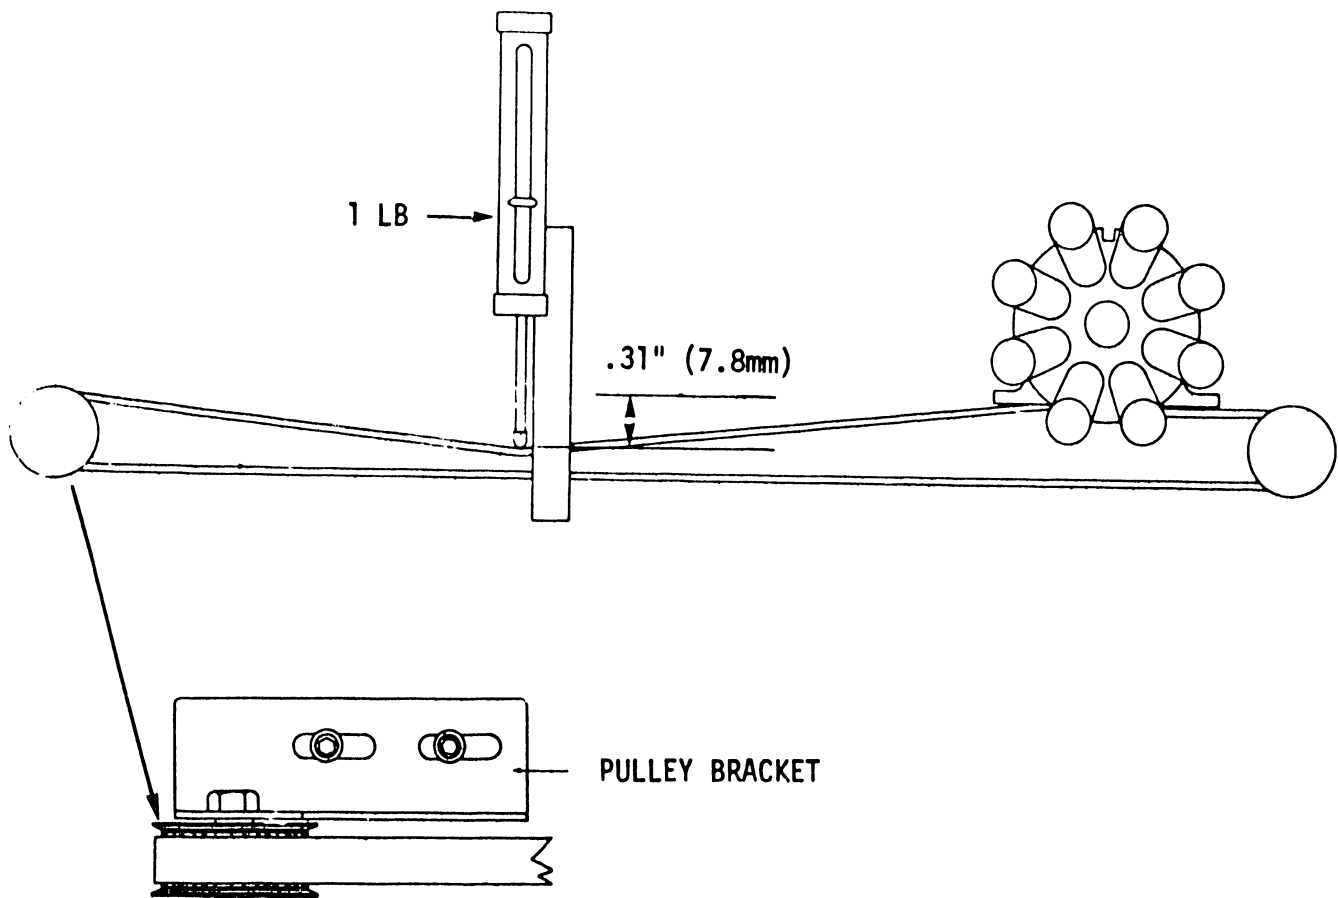

FIGURE 5-4 MAIN DRIVE BELT ADJUSTMENT
- 2) Using a spring gauge and scale, deflect the middle of the belt .31" or 5/16" (7.9 mm). The gauge should read 1 lb  $\pm$  2 oz. (Figure 5-4).